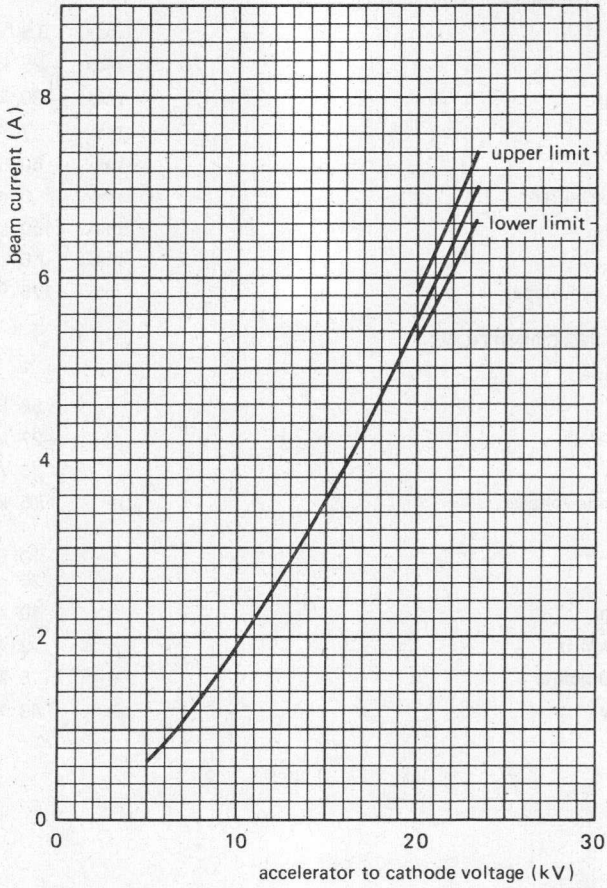

Fig. 2.
6. If the accelerator electrode is connected to the body (ground) via a 10 k Ω resistor, the cathode current is within $\pm 5\%$ of the value given in the graph of Fig. 2.